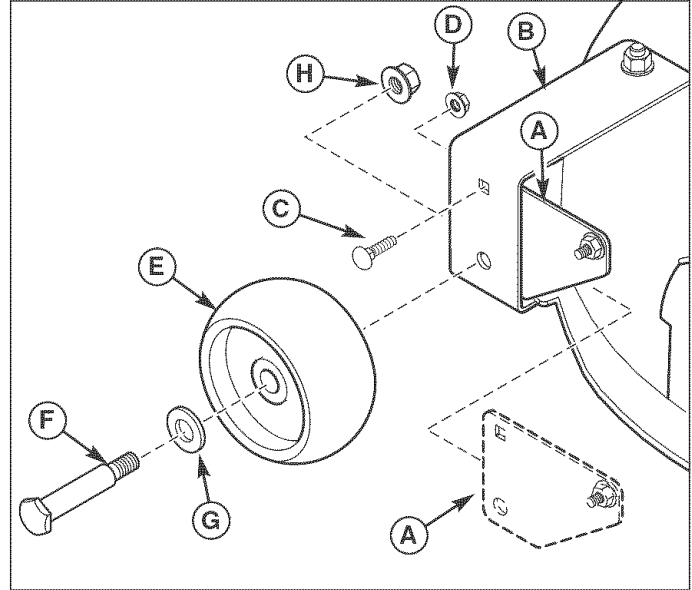

**Figure 12. Guage Wheel Removal**
1. Remove guage wheel (A, Figure 12) from guage wheel bracket (E) by removing wheel shoulder bolt (B), washer (C), and flange nut (D).